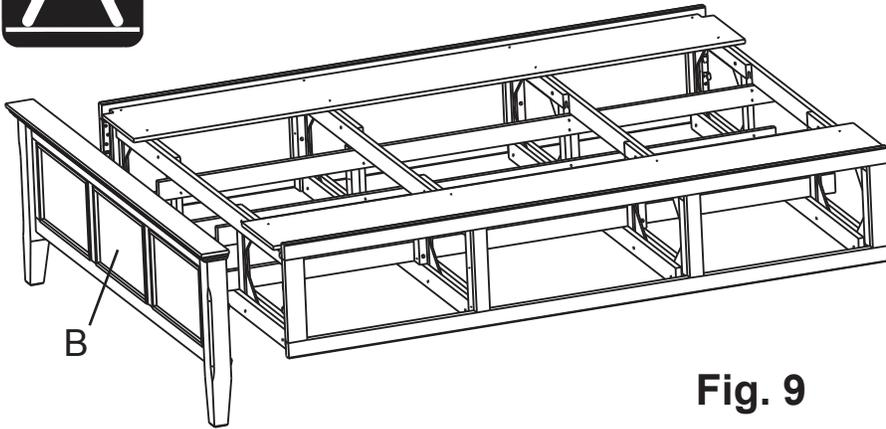
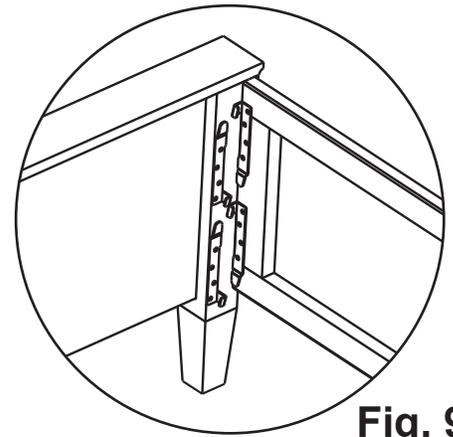

Fig. 9
Fig. 9a
9. Attach the Footboard (B) to the Pedestal Assembly as in Figure 9. Align brackets as shown in Figure 9a, and slide the Pedestal Assembly down on to the Footboard (B).